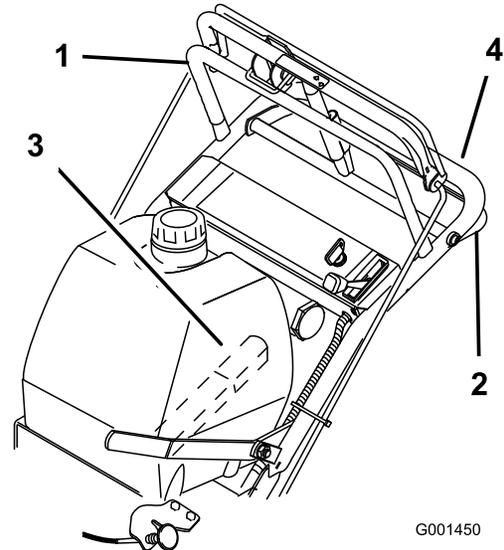
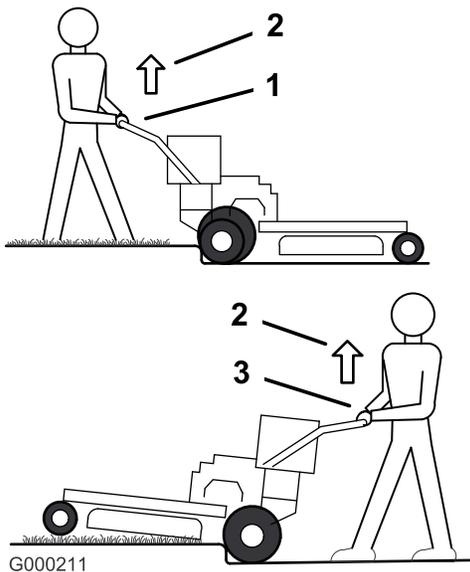
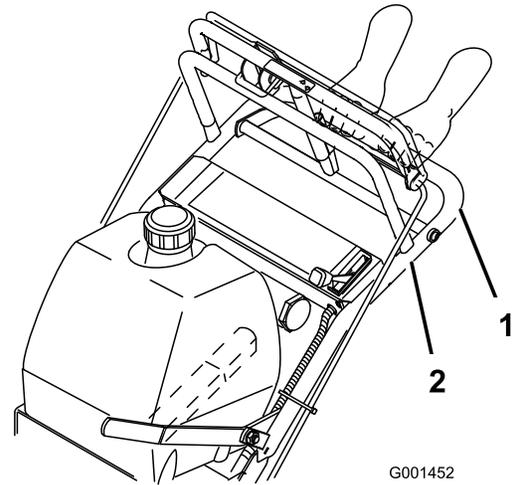

Figure 10
Figure 11
Figure 12
1. To go forward, move the shift lever to a forward gear (Figure 10).
3. Slowly press on the upper control bar to move forward (Figure 10).
To go straight, apply equal pressure to both ends of the upper control bar (Figure 10).
To turn, release pressure on the upper control bar side in the direction you want to turn (Figure 10).
3. Slowly squeeze the lower control bar and lower handle together to move rearward (Figure 10).
3. Drive machine until the caster wheels contact the curb (Figure 11).
4. Lift the front of the machine by pushing down on the lower handle (Figure 11).
5. Drive the machine until the drive wheels contact the curb (Figure 11).
6. Lower the front of the machine (Figure 11).
7. At the same time engage the lower control bar and lift up on the lower handle to drive over the curb (Figure 10 and Figure 11).
3. Drive the machine until drive wheels contact curb (Figure 11).
4. At the same time engage lower control bar and lift up on the lower handle (Figure 10 and Figure 12).